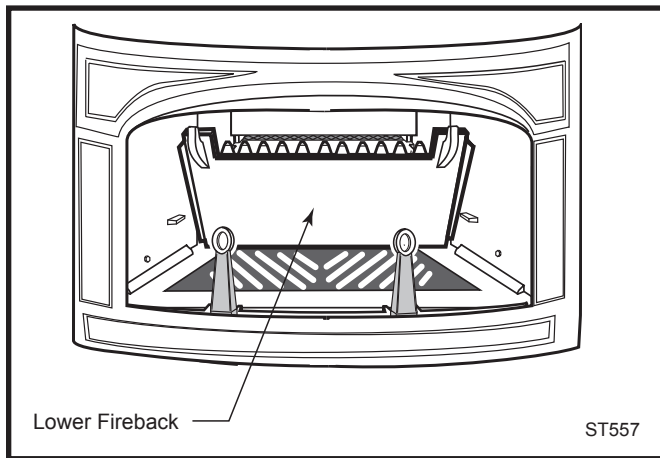

Fig. 44 Remove the lower fireback.
2. Tap the left and right wedges upward, and remove the lower fireback by pulling it forward. You can either let it lie face down on the firebox floor, or remove it from the stove, through the front door opening. (Fig. 44)